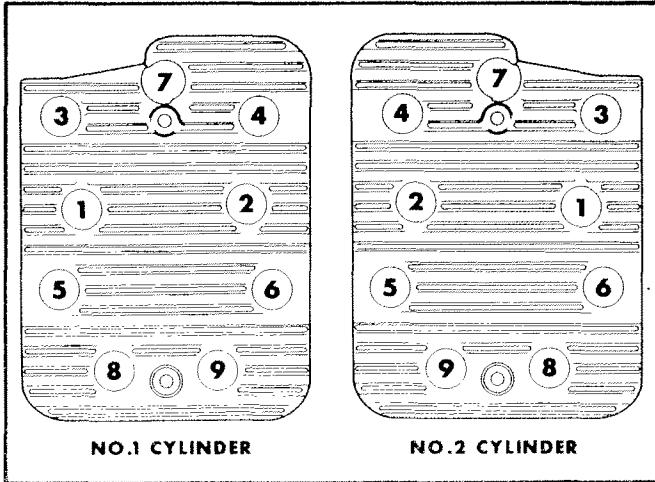

FIGURE 45. CYLINDER HEAD TORQUE SEQUENCE
4. Place heads in position and follow head torque tightening sequence shown in Figure 45. Start out tightening all Nuts to 5 ft-lb, then 10 ft-lb, etc., until all Nuts are torqued 14-16 ft-lb.